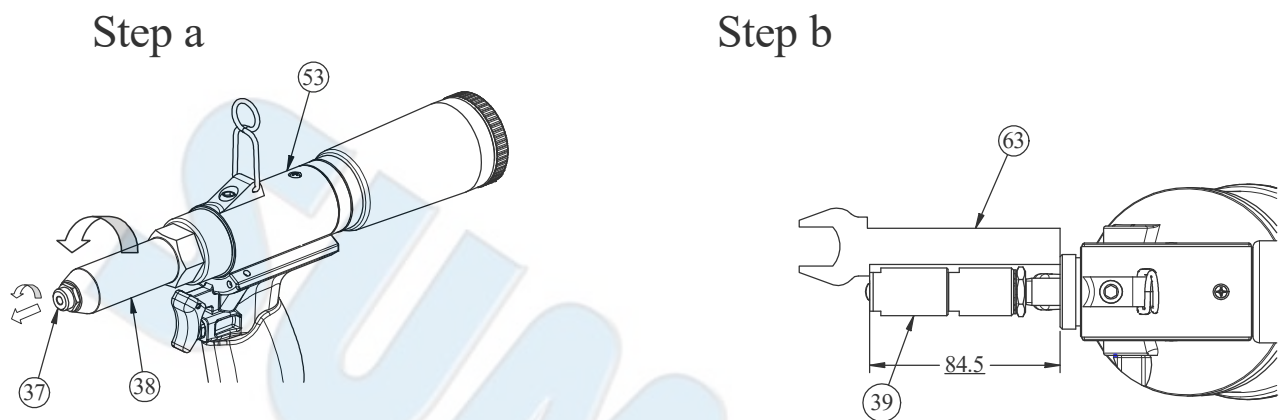

Fig. 2 Detail illustration of change the nosepiece.
FIG. 2 DETAIL ILLUSTRATION OF CHANGE THE NOSEPIECE, JAW, AND JAW PUSHER.	4
- a. Loosen and remove the nosepiece (Index 37 in Figs. 2 & 5), then set up the desired nosepiece (Index 37~37-2 in Figs. 2 & 5) on frame head as shown in Fig. 2;